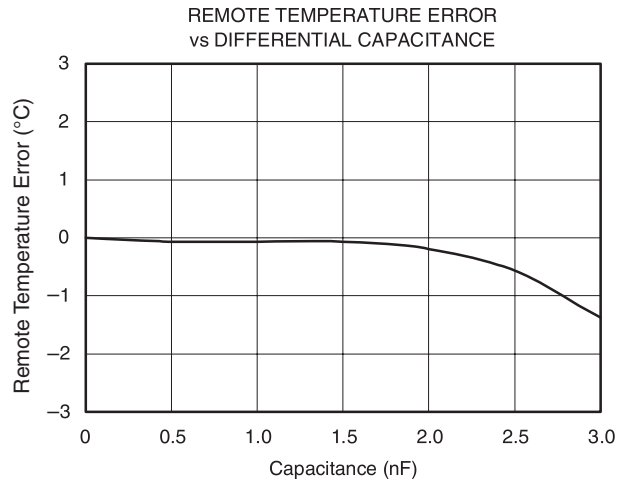

Figure 6.
- C_{DIFF} (optional) should be $<1000\text{pF}$ in most applications. Selection of C_{DIFF} depends on specific application; see Filtering section and Figure 6, Remote Temperature Error vs Differential Capacitance.
The TMP411-Q1 tolerates differential input capacitance of up to 1000pF with minimal change in temperature error. The effect of capacitance on sensed remote temperature error is illustrated in typical characteristic Remote Temperature Error vs Differential Capacitance (Figure 6).